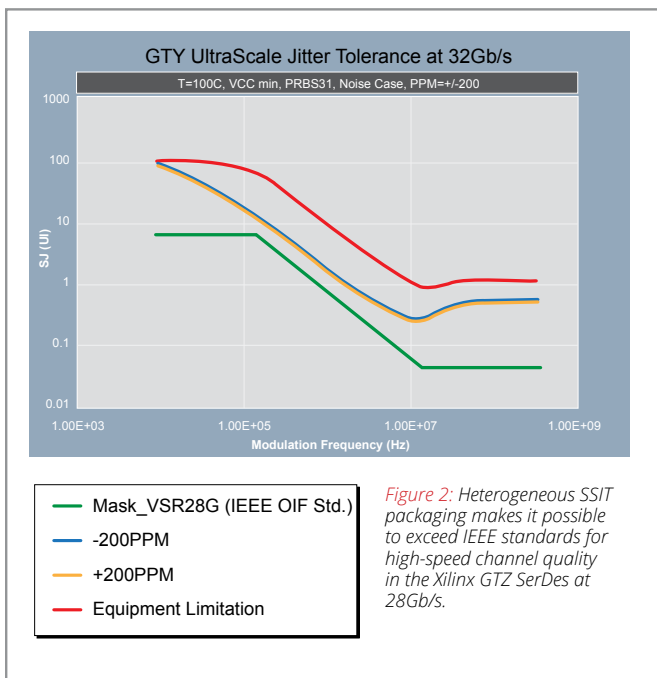

Figure 2: Heterogeneous SSIT packaging makes it possible to exceed IEEE standards for high-speed channel quality in the Xilinx GTZ SerDes at 28Gb/s.
- Process and Performance Learning Vehicles (PPLVs), which resolved many complex issues to accelerate NPI and increase design confidence (see Figure 2).
Xilinx engineers have proven that they verify, characterize, test, and qualify devices better and faster than anyone else in the industry. All while achieving absolute quality. For five generations, Xilinx’s advanced NPI methodology and milestone criteria (see Figure 2) have been tightened to keep ahead of increasing device complexity. At 20nm, the advancements improved data collection, verification, and characterization with:
Figure 2: From first silicon to production material ship, Xilinx has redefined its verification and characterization process to drive early discovery to release with zero errata.
Stacked silicon offers the inherent advantage of selecting "like" products in terms of power consumption and speed, which means more predictable results than monolithic silicon. A comparison of simulated and actual eye diagrams demonstrates this exceptional quality (see Figures 2 and 3). The methodologies behind the industry's first 28nm (28Gb/s) 3D IC heterogeneous devices and now extended at 20nm (33Gb/s) are fully integrated to meet performance and specifications. Selection starts with solid test and manufacturing methodologies at the assembly site, and includes:
- Stringent coverage and metric-driven verification performed on the SoC (see Figure 2).
Figure 2. Extended verification, characterization, and system-level verification fully exercise the processor subsystem as well as FPGA-processor interactions to ensure all Xilinx specifications are met.
The Xilinx zero-defect mindset was applied to the Vivado Design Suite from the beginning and feedback from customer scoring indicates that the quality of the Vivado tools has consequently exceeded expectations (see Figure 2). Stringent testing and release criteria has provided continuous improvement to the tools and IP. In addition, the UltraFast Design Methodology for the Vivado Design Suite enables project managers and engineers to accelerate productivity and quickly tune their sources, constraints and settings to accurately predict schedules. Now in its second edition, the guide covers all the aspects of:
Figure 2: Earlier and more stringent testing and verification mitigate the risks that stem from increasing complexity. Testing with higher-level customer designs increased the prerelease discovery and resolution of issues. With more issues identified during development, the impact on customers is minimized and design cycles are accelerated for higher-quality products and an improved user experience.